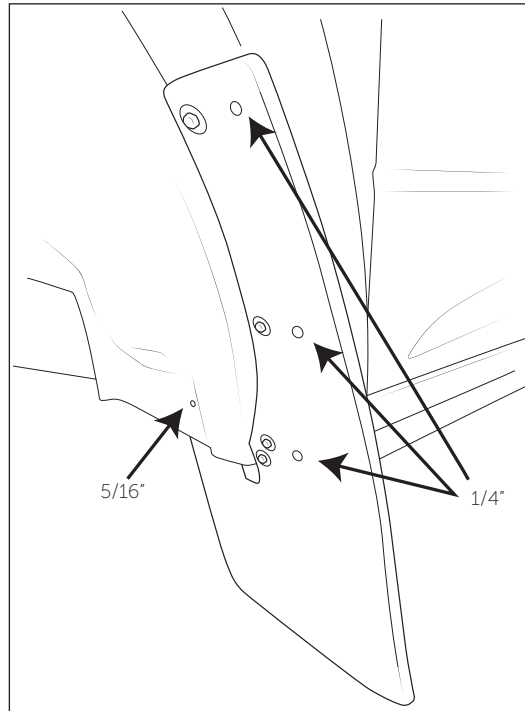
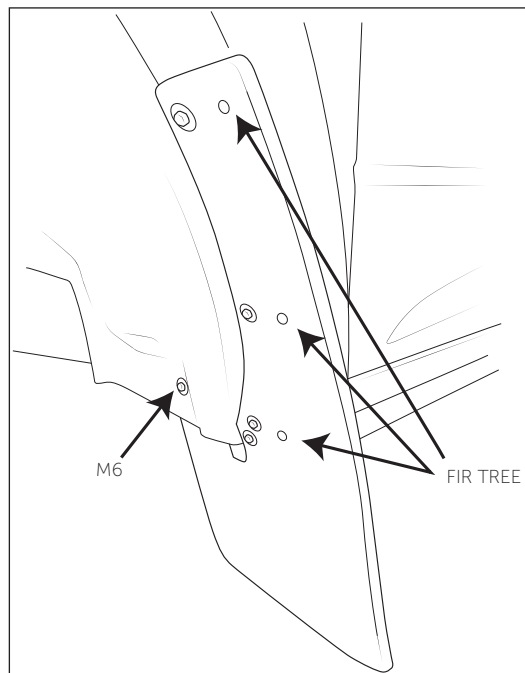

Figure 4
Figure 5
- Using the Splash Guard as a template, drill the innermost hole to 5/16" into the wheel liner (fig. 5). Drill the outer three holes to 1/4" into the fender flare (fig. 4). NOTE: Be sure Splash Guard is in the proper position and parallel to the ground.
- Tuck the innermost tab of the Splash Guard behind the wheel liner and install the supplied M6 bolt, nut, and washer through the hole drilled in previous step (fig. 5).
- Install supplied fir tree fasteners through the outer most holes into the fender flare (fig. 5).